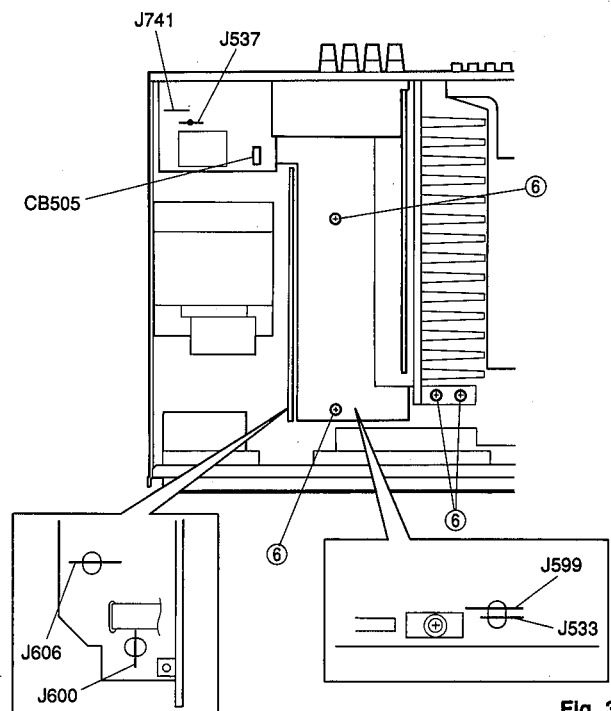

Fig. 3
c. Remove 4 screws (⑥) fixing the Main Unit in Fig. 3.
d. Detach 1 connector terminal (CB505) in Fig. 3.
e. Operating checks can be taken by shorting between following test points in Fig. 3.